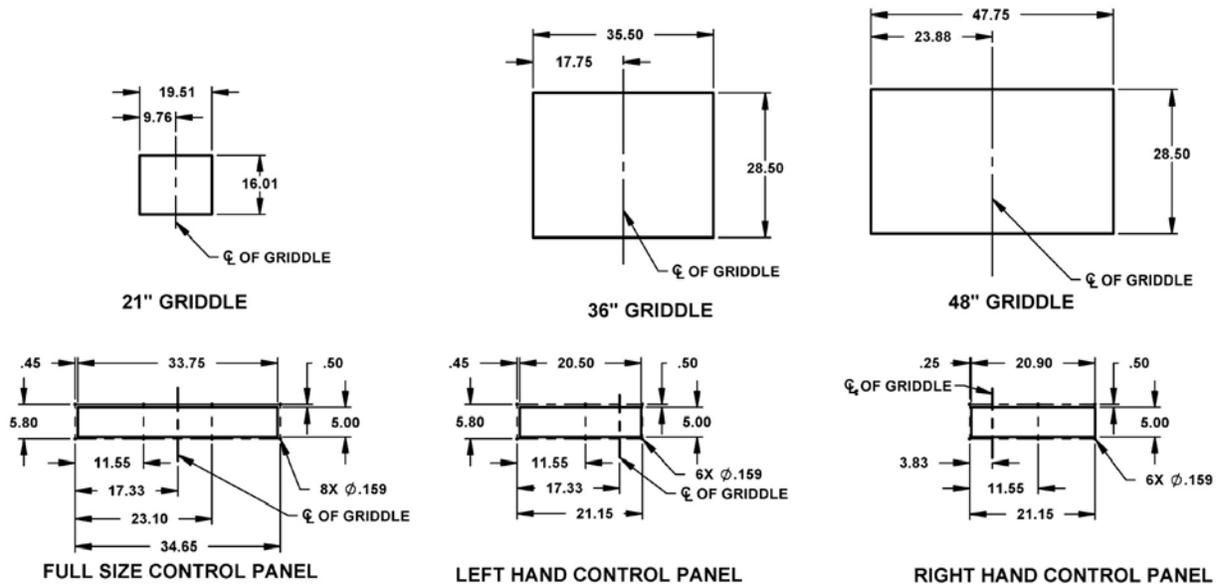
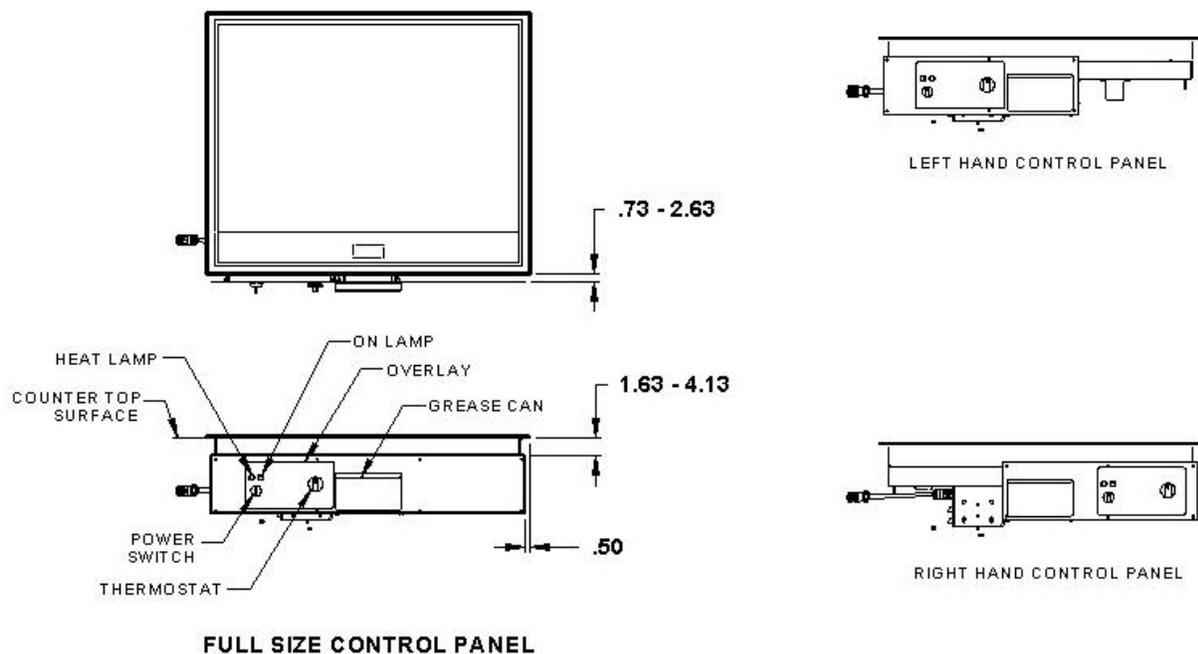

Fig. 2
Fig. 3
4. Determine the location and orientation for the griddle and control panel modules. Mark the centerline on the countertop for the griddle module, using a Carpenter's square. See Figure 2 for the countertop and control panel layouts. Continue the centerline to the control panel module mounting surface. Accurate centerline alignment of the countertop and control panel modules is critical to ensure the correct alignment of the grease trough assembly to the griddle module.
- The dimensional relationship between the griddle module mounting flange and the control panel module is shown in Figure 3. The griddle module mounting flange overlaps the countertop cutout by 0.50 inches on all four sides. Mark the griddle module cutout on the countertop such that the front edge of the griddle module is 0.73 inches – 2.63 inches from the control panel module mounting surface, as shown in Figure 3. Mark the control panel module cutout on the control panel module mounting surface, as shown in Figure 2.